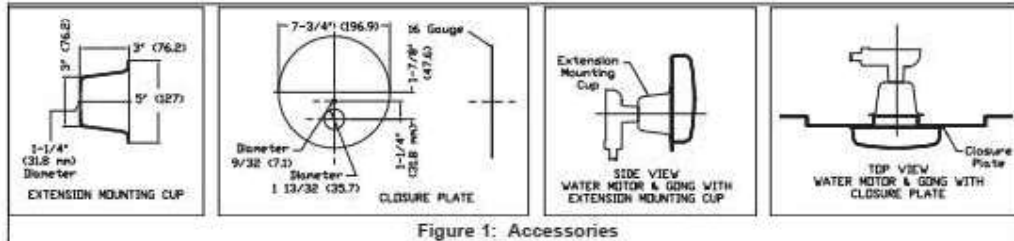

Figure 1: Accessories
- K. Attach the water motor assembly by threading the body (3) onto the free threaded end of the spacer pipe. The chamfered ends of the drive shaft allow it to slide into position as the water motor body is threaded onto the spacer pipe. When the assembly is properly tightened, the water motor should be positioned with the 1" (25 mm) NPT drain outlet facing downward and the 3/4" (20 mm) NPT alarm line inlet horizontal. See Figures 1 and 3.
- L. Attach the gong, the flat washer, and the gong label (16, 17, and 18) to the gong support installed on the exterior surface of the wall, with the 5/16-18 x 12" (13 mm) screw (19). Note: The flat washer must be installed between the gong and the gong support (17).